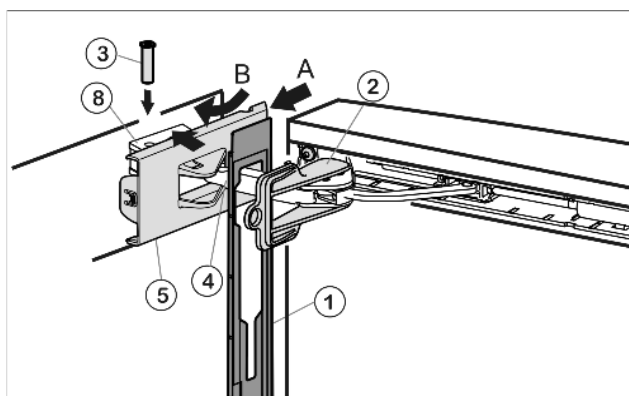

Fig. 32
- ▶ Hook panel *Fig. 32 (1)* into the damper bracket *Fig. 32 (4)* such that the detent hooks are pointing inwards and the front side is facing the appliance.
- ▶ Push on cover *Fig. 32 (5)* from the outside (A) and pivot over the bearing part *Fig. 32 (8)* (B).
- ▶ Place cover *Fig. 32 (5)* on top and allow to snap into place until the first notch.
- ▶ Pull damper bracket *Fig. 32 (4)* towards bearing part and insert bolt *Fig. 32 (3)* from above such that the square is resting in the recess.
- ▶ Now snap cover *Fig. 32 (5)* completely into place on the bearing part *Fig. 32 (8)*.
- ▶ Remove locking device *Fig. 32 (2)* by twisting it.
- ▶ Snap panel *Fig. 32 (1)* into place on the door.